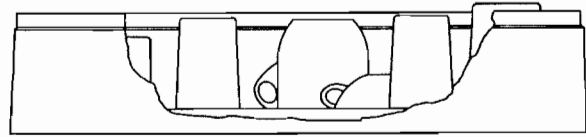

Fig. 6
C.2.1.2 Cups, glasses and bowls should be placed open side down (bottoms up) in cup, glass and silver rack (Fig. 6).
C.2.1.3 Silverware, butter chips, and small pieces are to be scattered loosely over screen bottom of cup, glass and silver rack (Fig. 6).